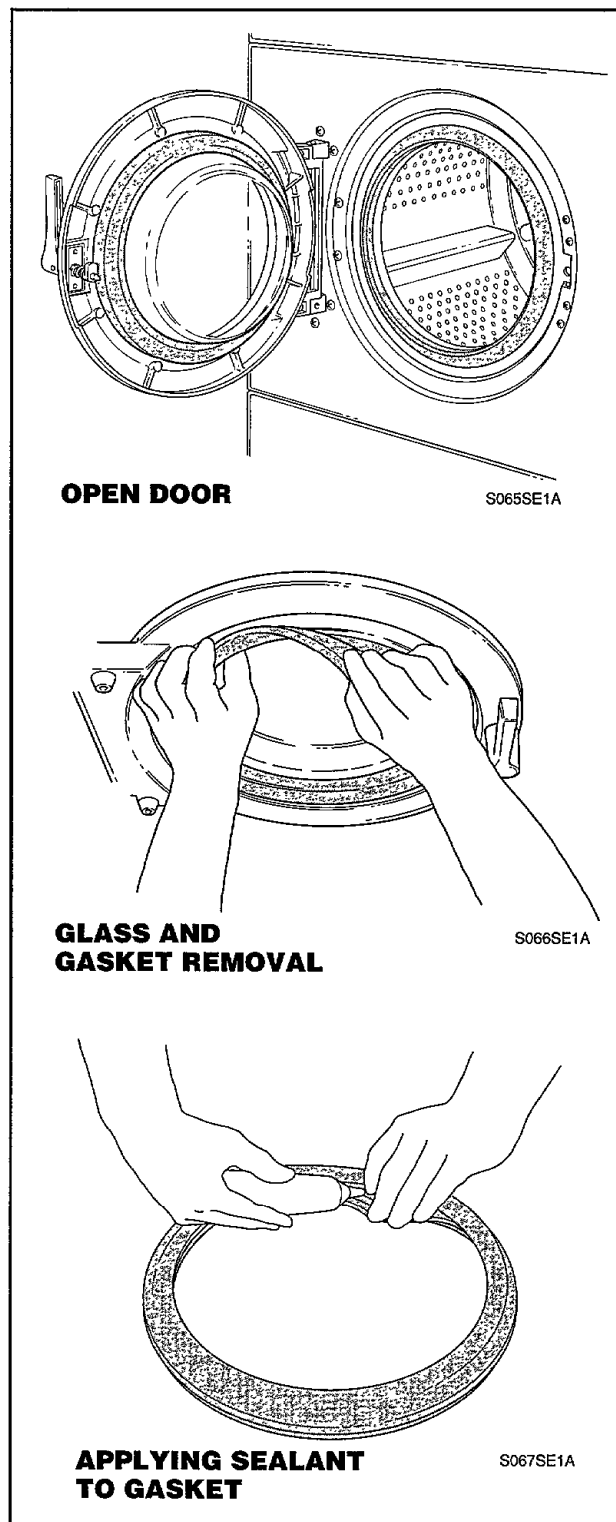

Figure 10
- Starting at the top of the door, peel the old gasket from the door frame and at the same time push in on the door glass forcing the glass and gasket off the door frame, *Figure 10.*
- Remove the old gasket from the door glass, *Figure 10.*
- Apply a bead of a good quality water and temperature resistant silicone sealant, such as Dow Corning Silastic 732-RTV or equivalent (these are clear silicone sealants), around the entire area of the door glass gasket channel. This is the channel with the ribs that seal against the glass surface, *Figure 10.*